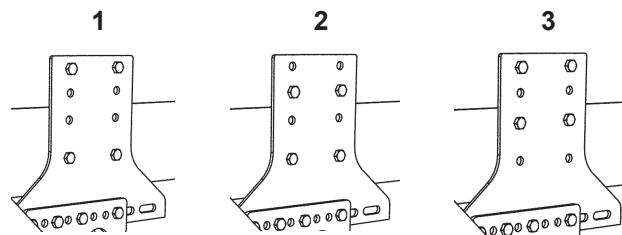

Figure 25. Installation of screws
4. Fasten the brackets securely to the frame with the M14x45 screws supplied. Fasten with a minimum of 4 bolts in each mounting bracket. See Figure 25 below for recommended placing of bolts: